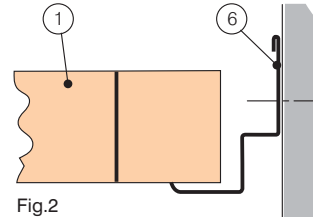
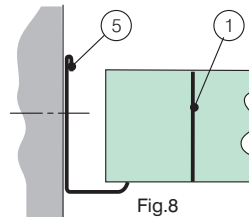

Fig.2
Fig.8
Either of the perimeter angles (5) (Fig. 8) and (6) (Fig. 2) can be used to cloak Multicel C or Multicel R cut components at wall and other abutments.